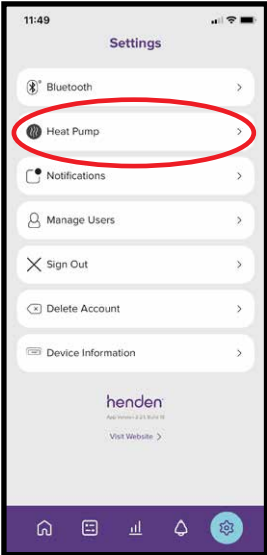

Figure 9.85
- Press the “Heat Pump” button (refer Figure 9.85).